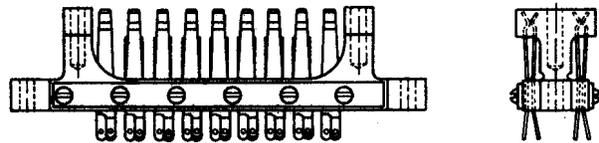

Fig. 7—312 Jack
**2.07 312:** This multicontact jack (Fig. 7) is used with the 231 plug and designed for switching or patching in emergency switching and patching plug and jack equipment in dial offices. The contacts are insulated from each other and are arranged in pairs. The 312 jack is provided with guide holes arranged to engage with guide posts of associated plugs for centering contacts of plugs and jacks. This jack has 18 pairs of contact springs.